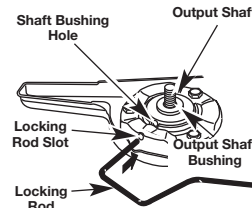
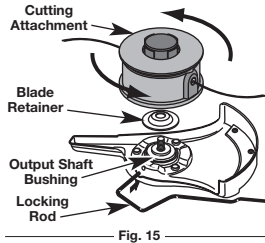

Fig. 8
Fig. 15
1. Align the shaft bushing hole with the locking rod slot and insert the locking rod into the shaft bushing hole (Fig. 8).
6. Align the shaft bushing hole with the locking rod slot and insert the locking rod into the bushing hole (Fig. 8).
- Align the shaft bushing hole with the locking rod slot and insert the locking rod into the bushing hole (Fig. 8).
- Align the shaft bushing hole with the locking rod slot and insert the locking rod into the shaft bushing hole (Fig. 8). Place the blade retainer on the output shaft with the flat surface against the output shaft bushing (Fig. 15). Screw the cutting attachment counterclockwise onto the output shaft. Tighten securely.